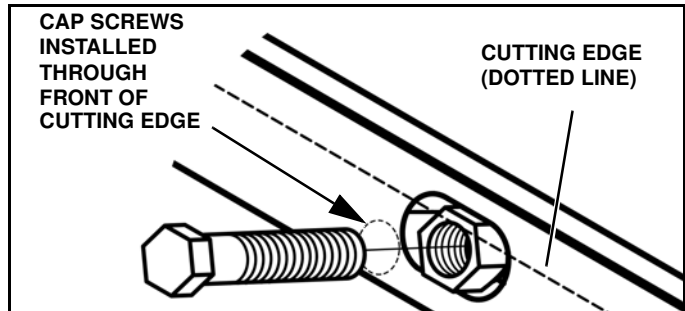

Figure 1-58
7. Insert and hand tighten one cap screw with nut in either end of the of the cutting edge. (See Figure 1-58).